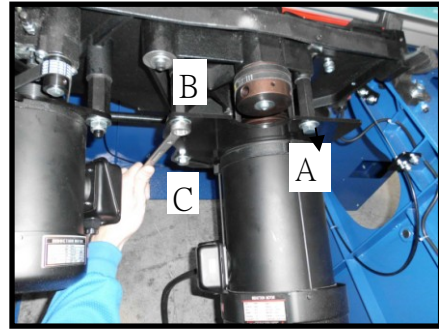

Fig. 64
4. Loosen the hex head bolt A and B, and tight the hex head bolt B. (Fig. 64)